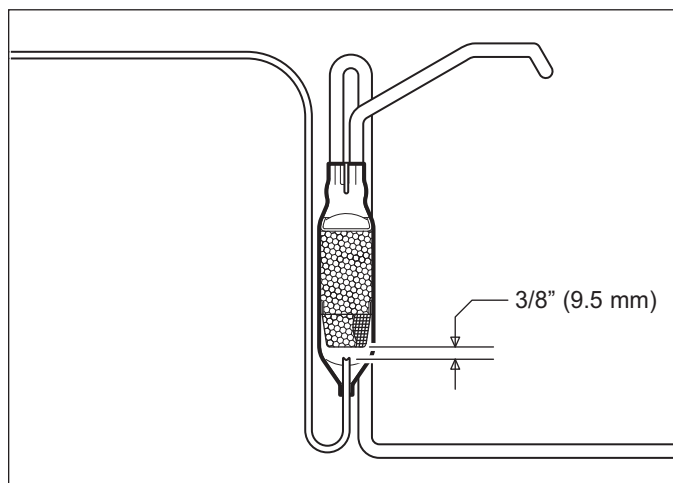

Figure 7-241. Capillary Tube Insertion Note
- When installing replacement filter-drier, insert capillary tube until it touches screen inside drier, then pull capillary tube away from screen approximately 3/8" before brazing. (See Figure 7-241).